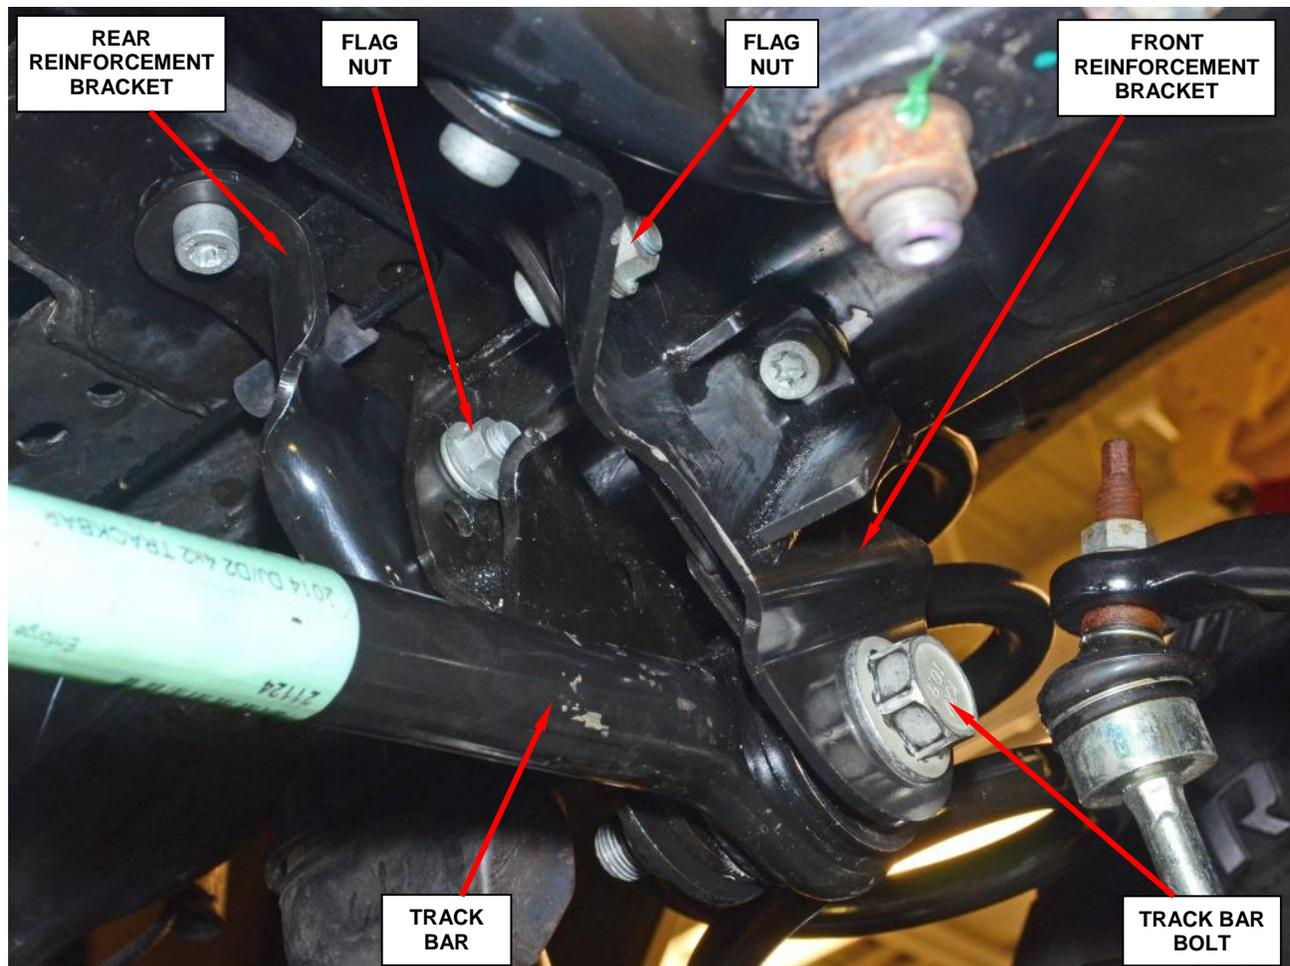

Figure 60 – Install New Track Bar Bolt and Nut / Tighten to 285 ft. lbs. (386 N·m)
38. Install the track bar into position in the track bar bracket and install the new track bar bolt and new nut (Figure 60).